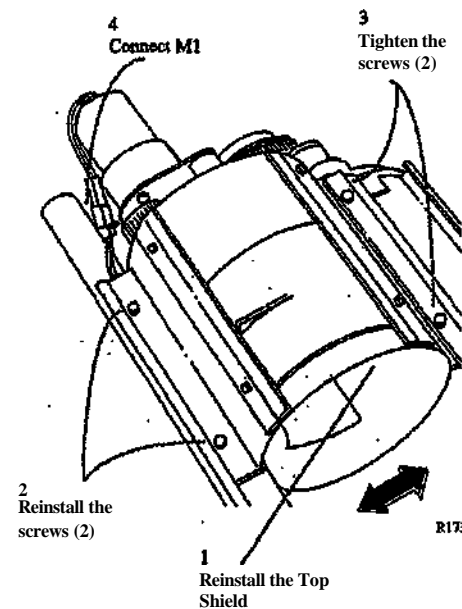

Figure 3. Reinstalling the Top Shield
2. (Figure 3): Reinstall the Top Shield, taking care not to overtighten the screws.